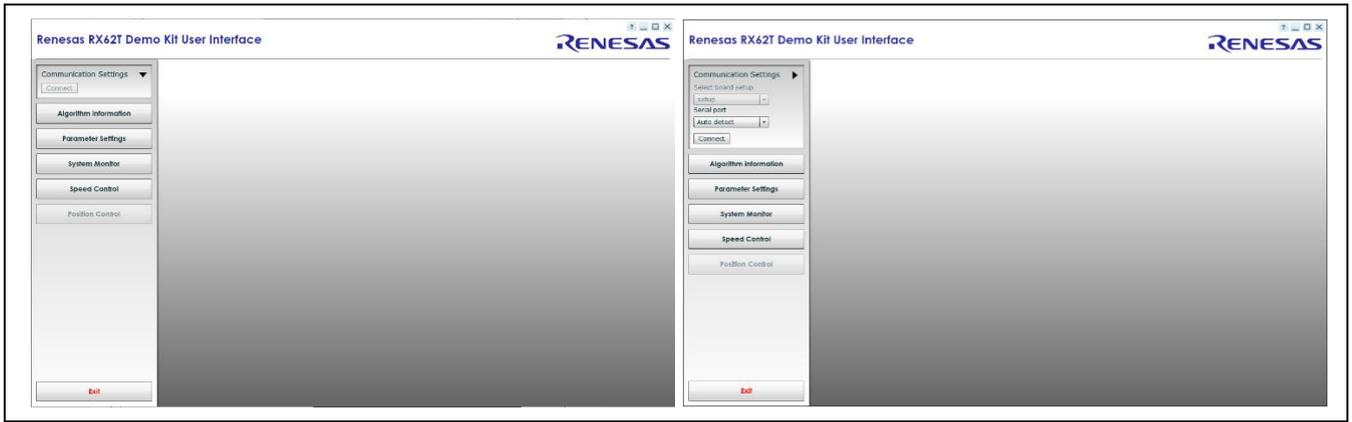

Figure 30 Connecting to the Motor Control Demo GUI 1 of 2
The GUI program screen will launch and display as shown in Figure 30. For a serial port update, wait for a few seconds to get the “Connect” button highlighted and then proceed to Step 3.
Step 3. Click the “Communication Settings” tab on the top left of the GUI seen in Figure 30 and select “Auto detect” under the serial port drop-down tab.